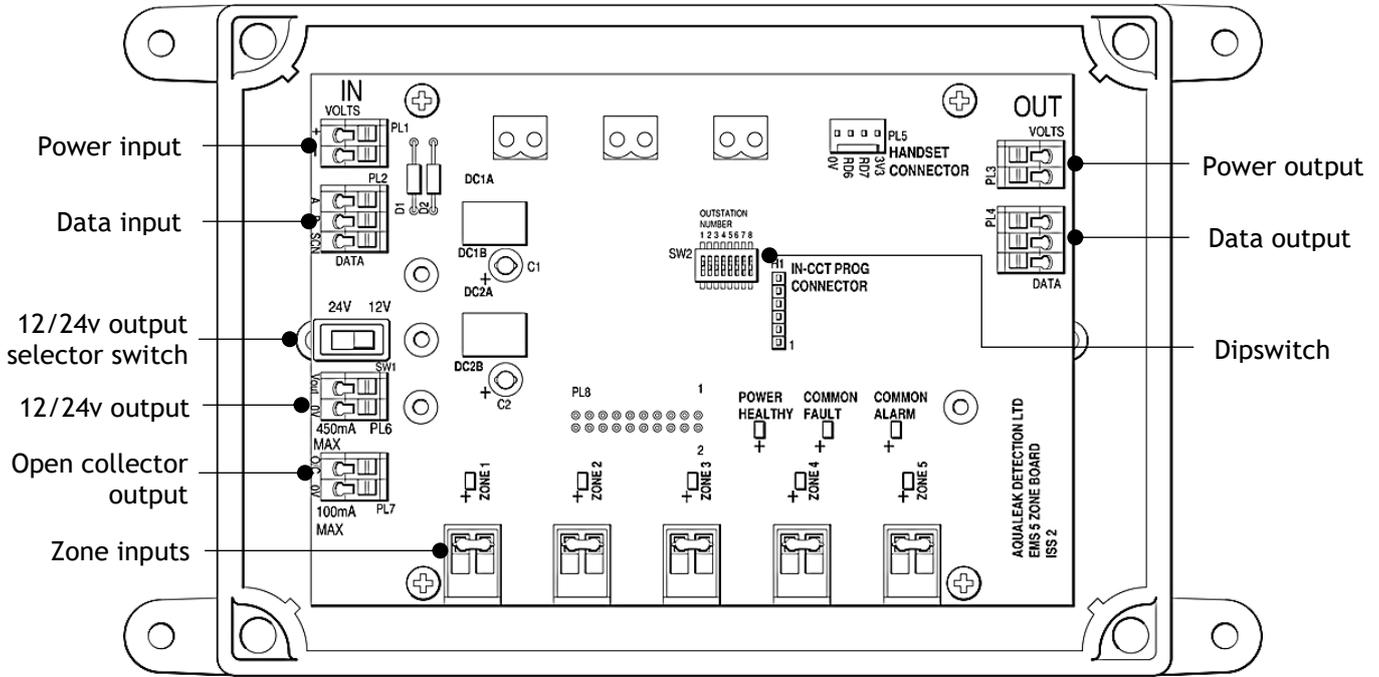

Figure 15: Outstation Panel
2. Terminate the power & data bus cable (RS485) into the top left terminals of the outstation PCB (Figure 15).